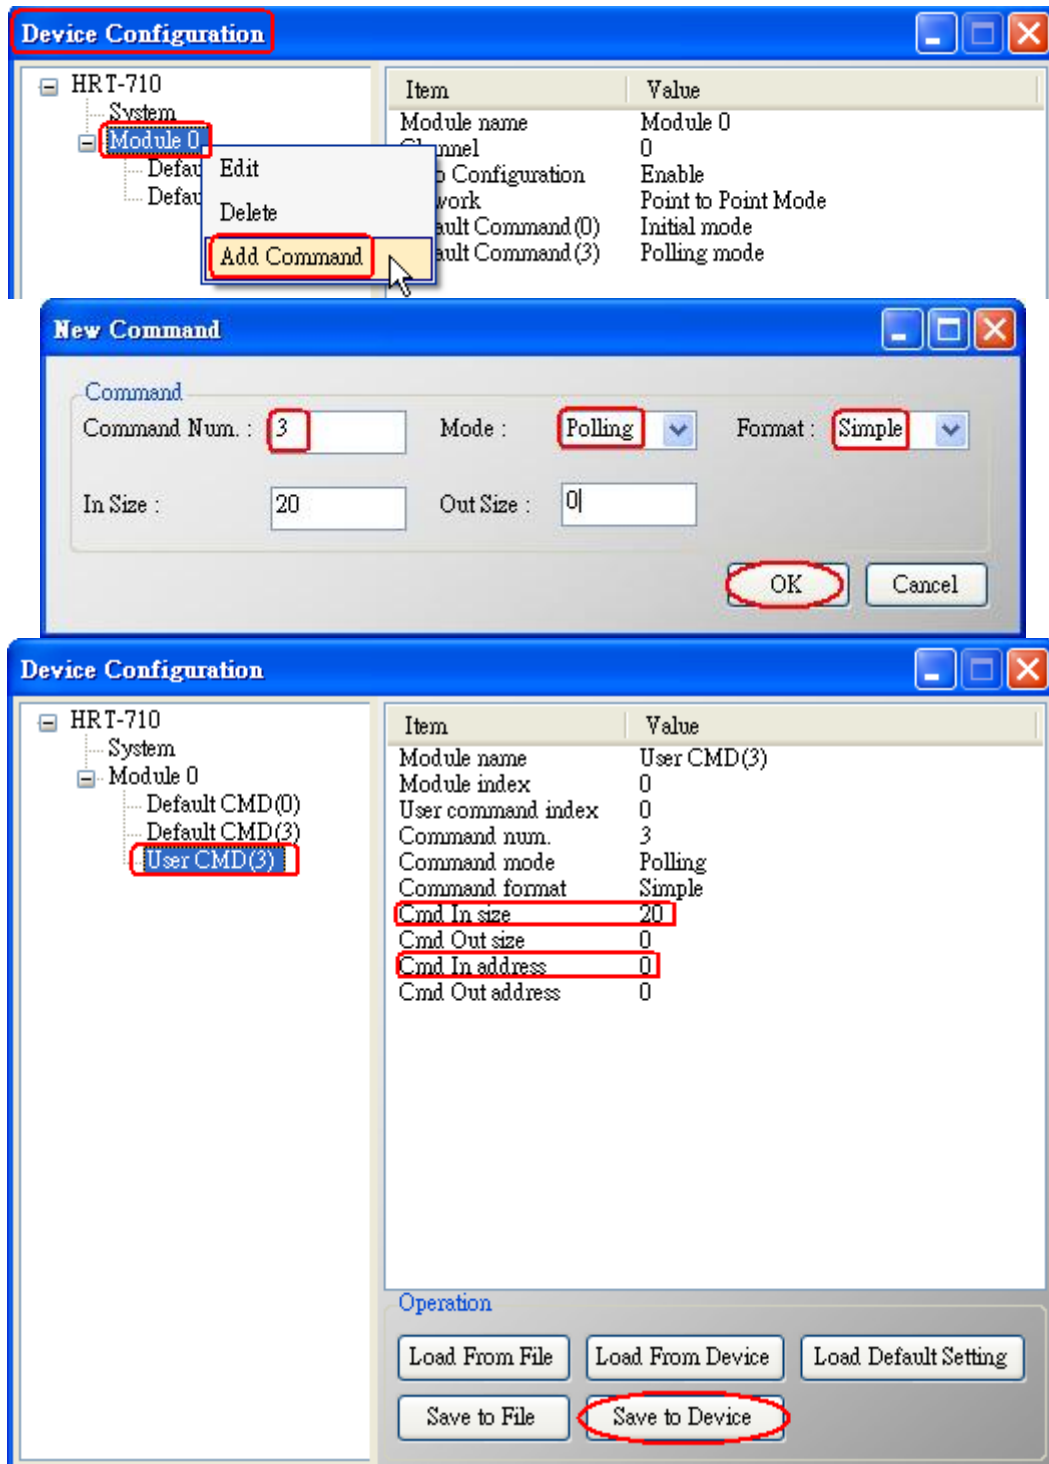

Figure 3-9 Add "User CMD(3)" to HRT-710
[1] Add “**User CMD(3)**” with “**Simple**” format and then click “**Save to Device**” to save the new HART device setting to HRT-710 like Figure 3-9. The mapped Modbus start address and length of User CMD(3) data can be found in “**Cmd In address**” and “**Cmd In size**” field. In the example, they are 0 and 20.